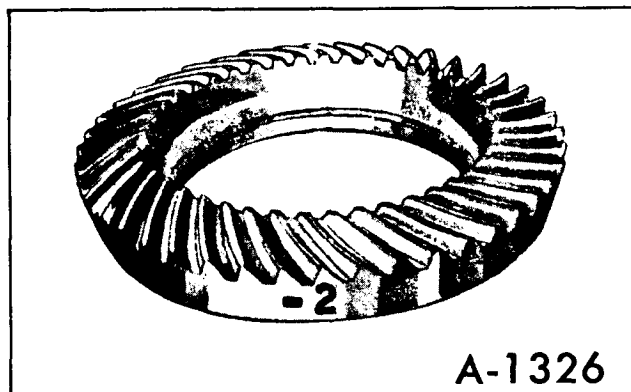

Figure 38-Location of Pinion Marking
a. If a service gear set or a production gear set with no paint marking, on outer circumference of ring gear is being used, the correct shim will have a thickness equal to the indicator gauge reading found in Step 9. (figure 38)
Ring gear painted "+" (plus), the shim thickness indicated by the dial indicator on the pinion setting gauge must be **INCREASED** by the amount painted on the ring gear. (figure 38)
Ring gear painted "-" (minus), the shim thickness indicated by the dial indicator on the pinion setting gauge must be **DECREASED** by the amount painted on the ring gear. (figure 38)